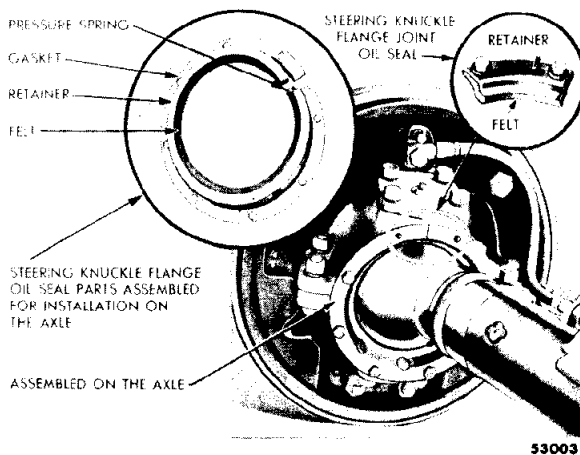
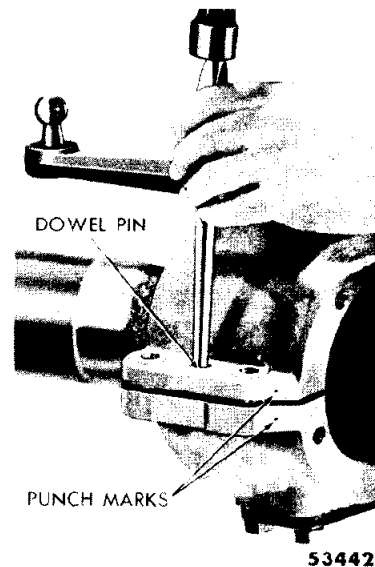

Fig. 37 — Steering Knuckle Flange Oil Seal Assembly
Fig. 38 — Removing Steering Knuckle Flange
- (9) Remove steering knuckle flange oil seal assembly. Refer to Figure 37.
- (10) If the left side is disassembled, it will be necessary to disconnect the drag link from the steering arm.
- (11) The upper and lower sections of the steering knuckle flange are machined as an assembly and must be assembled as such. Under the circumstances, the upper or lower sections of the steering knuckles are not interchangeable with like parts of any other assembly. To facilitate correct assembly, it is recommended that the two sections be marked before they are disassembled. Remove the dowel pins and bolts (Fig. 38). This will permit the removal of the two sections of the steering knuckle flange assembly from the axle housing.
- (12) If replacement is necessary, remove the bearing cones from the front axle housing trunnion pins.
- (13) Remove the steering arm from the left steering knuckle flange assembly, or the upper bearing cap from the right side.
- (14) Fasten the steering knuckle flange bearing shims for each knuckle assembly to either the steering arm or bearing cap, in order to facilitate adjustment of the bearings at the time of assembly.
- (15) Remove the flange lower bearing cap and gasket.
- (7) Install steering knuckle flange oil seal assemblies (Fig. 37), using new felt seals and gaskets. Assemble parts so that the open ends are at the top. Clean the sealing surfaces to remove all traces of previous gasket. Install pressure spring in the oil retainer end. After saturating the oil seal felt in oil, assemble it in the retainer with the ends even with the retainer ends.
- (8) Assemble tie rod to steering knuckle flange arms and connect the drag link to the left steering arm.